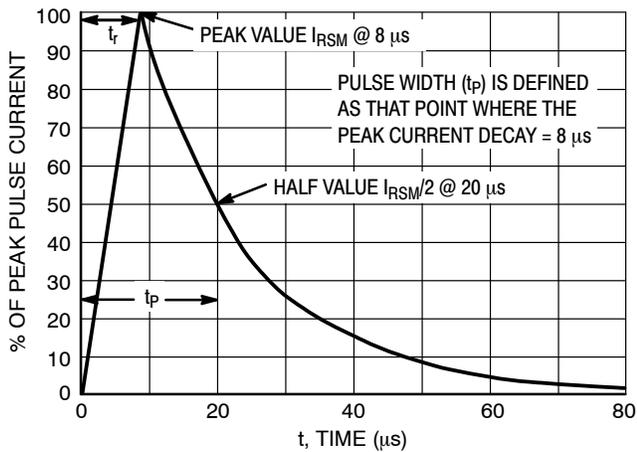

Figure 1. IEC61000-4-5 8/20  $\mu\text{s}$  Pulse Waveform
1. Non-repetitive current pulse per Figure 1 (Pin 5 to Pin 2)